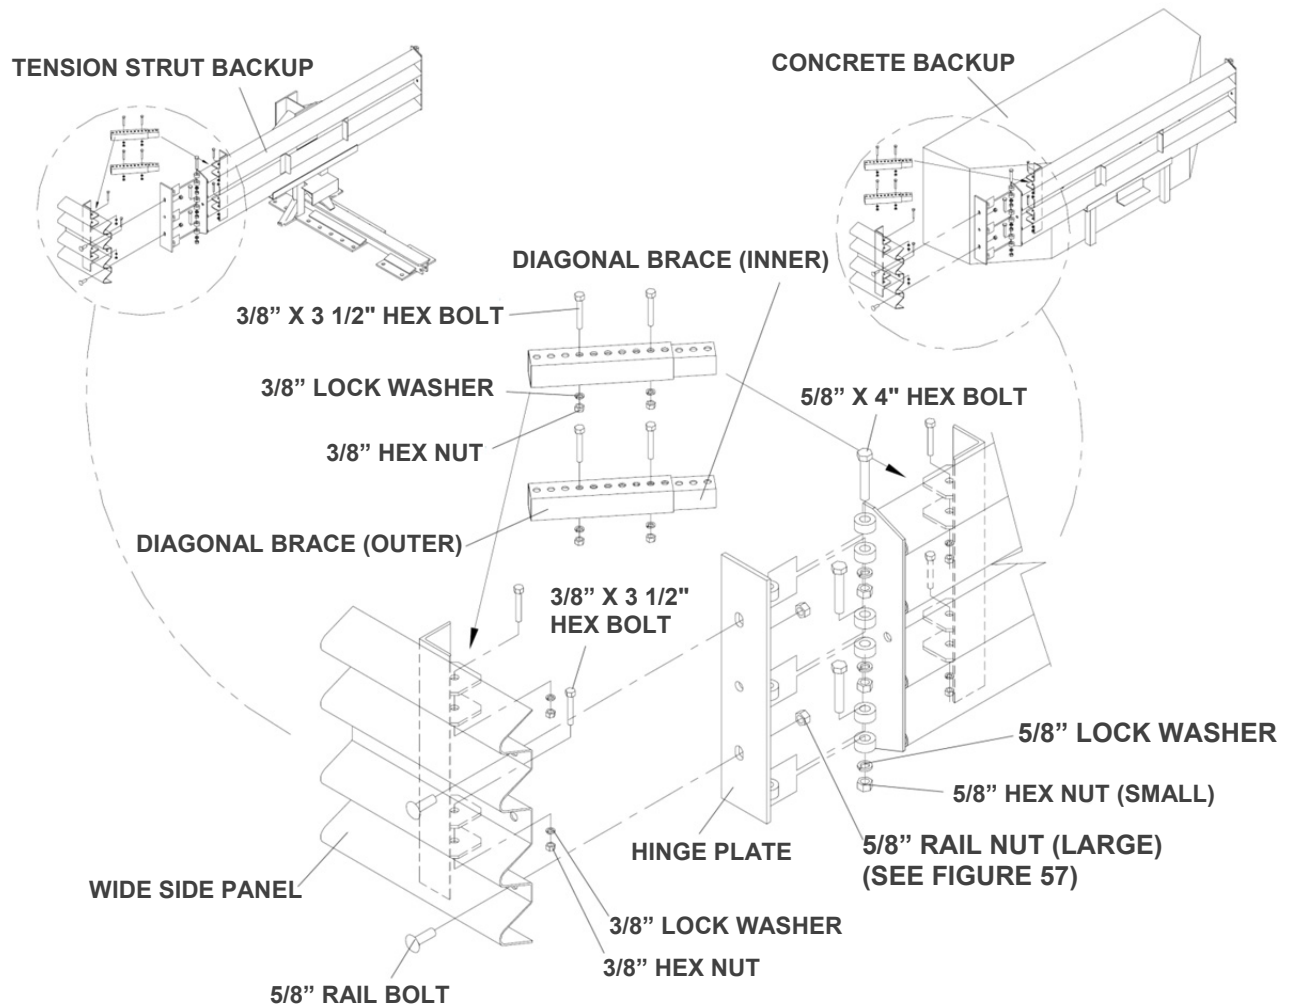

Figure 53
- Attach Transition Panel or Side Panel assembly to side of Backup using 5/8" hex bolt, 5/8" lock washer and 5/8" hex nut (three places each side of Backup) (See Figure 53, p. 43).
- Attach diagonal brace to Fender Panel and Backup using 3/8" hex bolt, 3/8" lock washer and 3/8" hex nut (two (2) places per brace: four (4) places per side).
- Secure each diagonal brace with a 3/8" hex bolt; 3/8" lock washer, and 3/8" hex nut (two (2) places per brace) as shown in Figure 53.